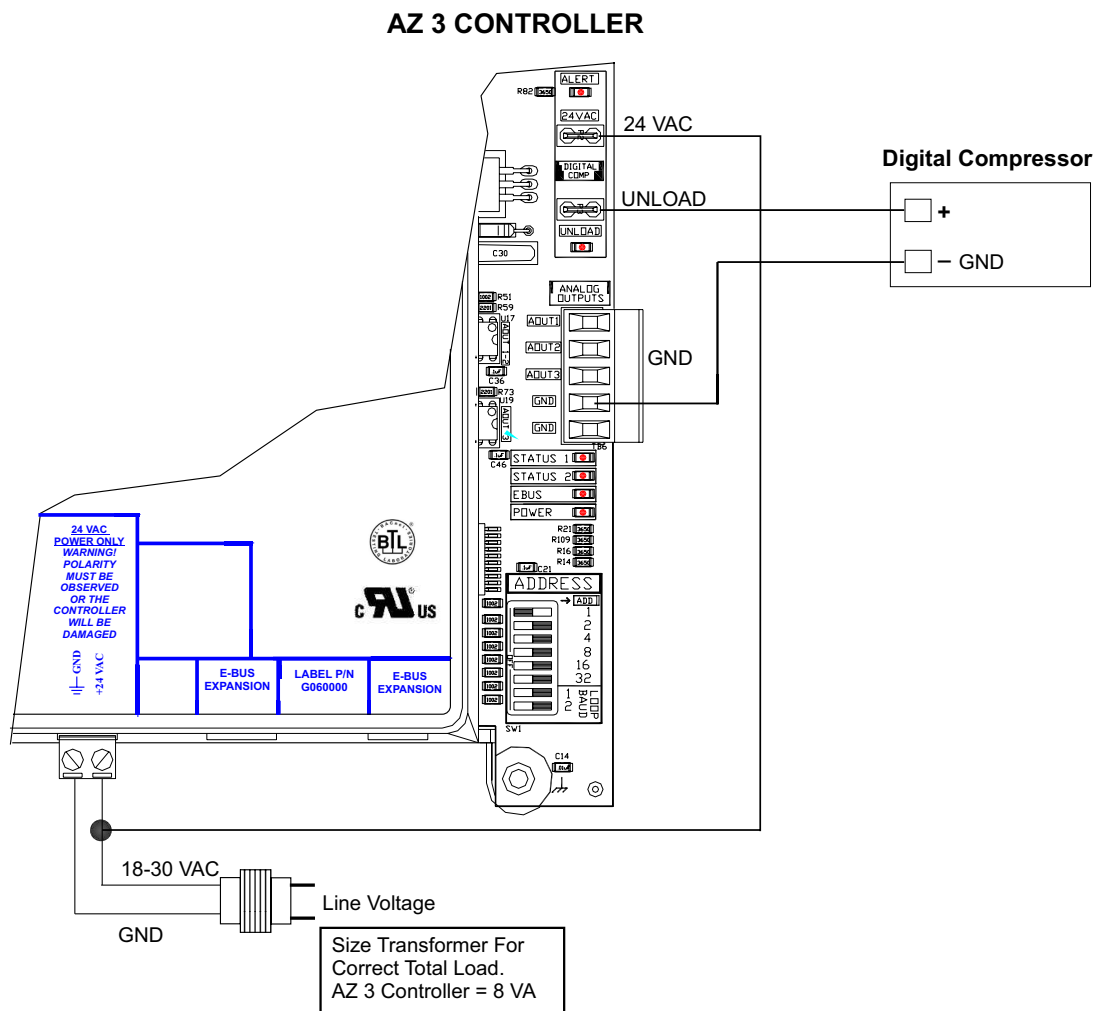

Figure 24: Digital Compressor Unloader Wiring
Only (1) Digital Compressor can be controlled with the AZ 3 Controller. See **Figure 24** below for wiring details.